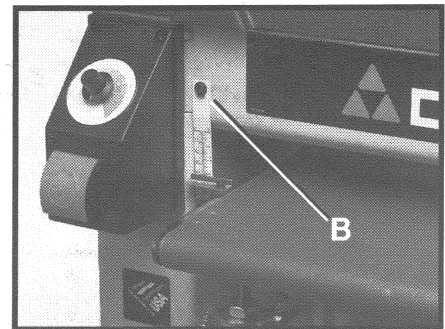

Fig. 24
3. Loosen the screw (B) Fig. 24. Move scale up or down until the cursor shows the exact board thickness that was measured in **STEP 2**. Tighten the screw.